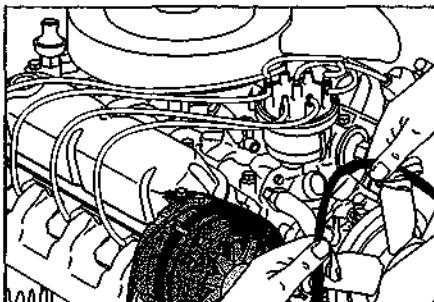

Figure 14-14:
4. Remove the old belt by slipping it off the pulleys (see Figure 14-14).